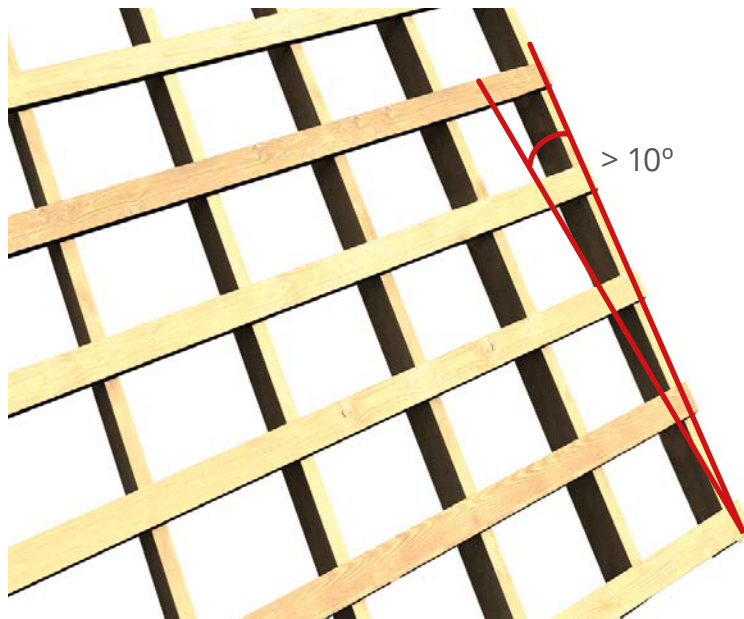
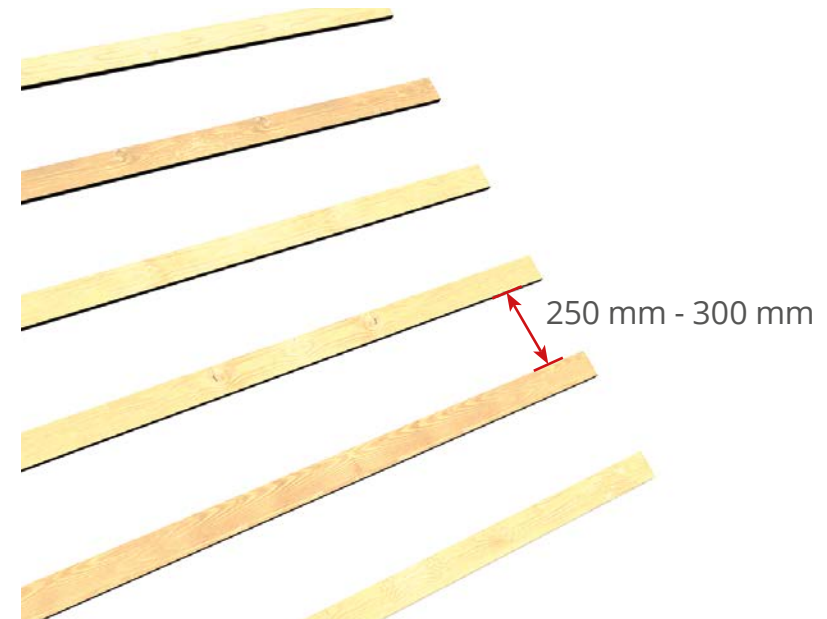

Fig. 1
Fig. 2
1.2 Double seam installation is applicable for roof inclination that exceeds 10 degrees (Fig. 1); **the battens should be laid every 250-300 mm**, parallel to the first fastened row (Fig. 2).